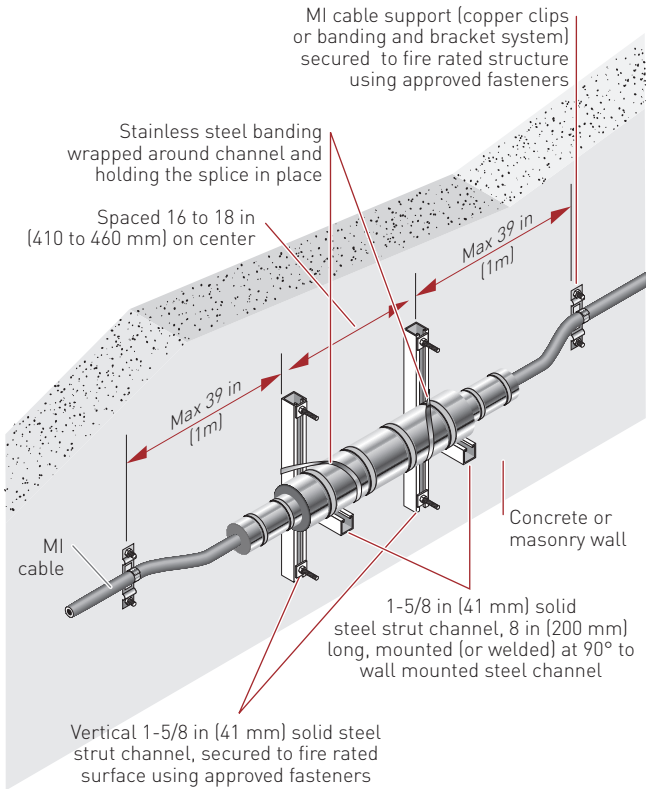

Figure 8: Splice - Field Splice Kit
5. **Field Splices** (Figure 8) – The MI cable(s) may be spliced in the field with field installed fire rated splice kit on cables with diameters of 0.324 in. (8.2 mm) to 1.00 (25.4 mm). Refer to the Manufacturer's Installation Instructions dated October 2016 for additional details.